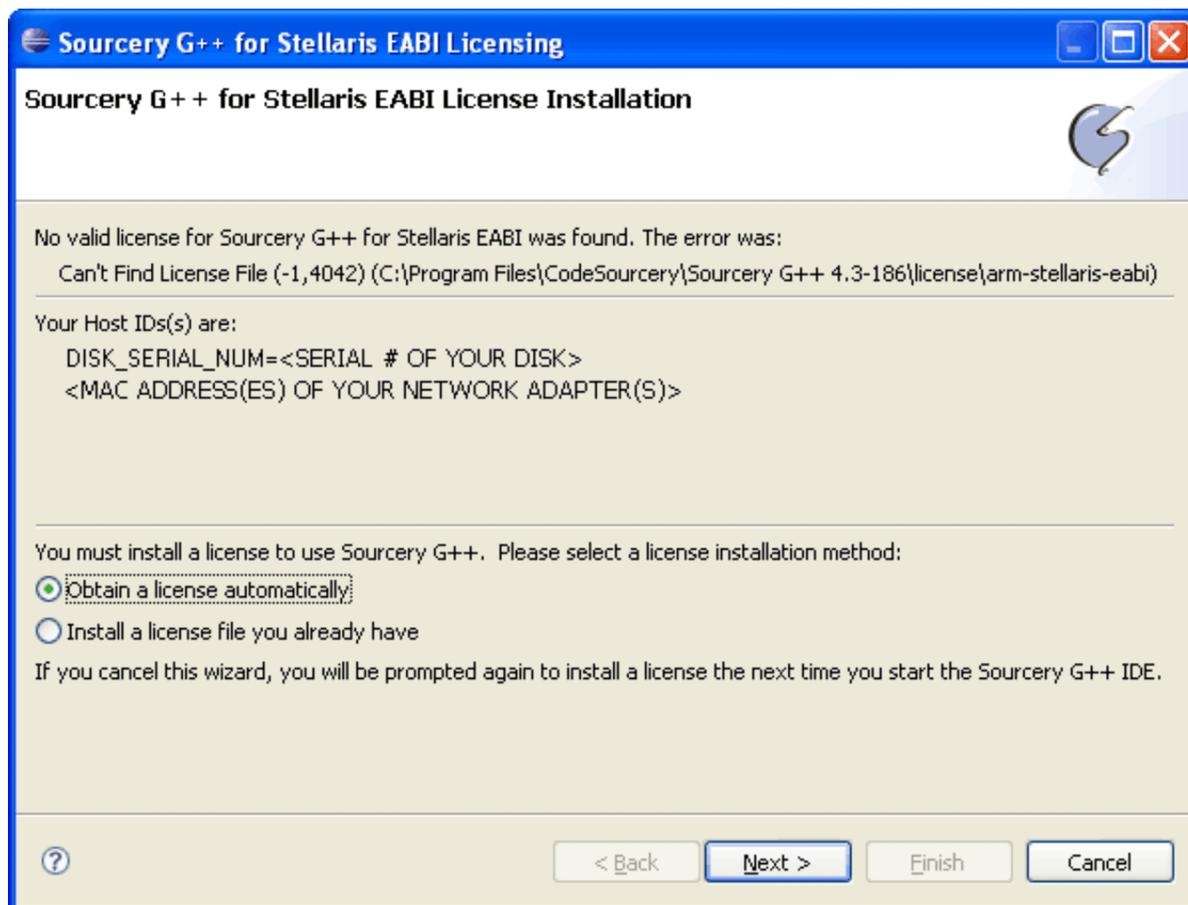

Figure 1.
4. Register with CodeSourcery to obtain an evaluation license once installation is complete. To obtain a license, start the Sourcery CodeBench integrated development environment (IDE). The Sourcery G++ for Tiva EABI License Installation window appears. (see Figure 1)